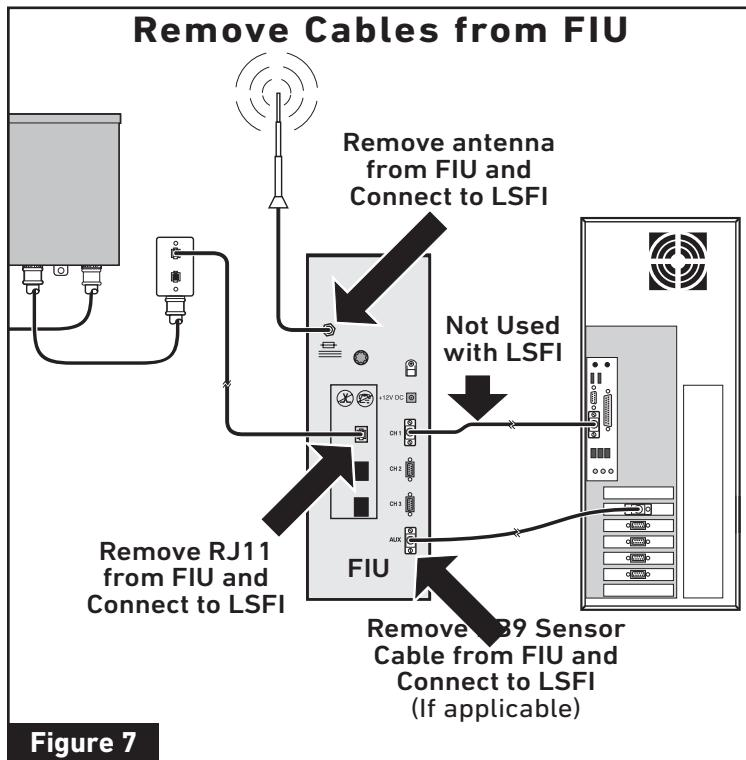

Figure 7
1. Remove the antenna, RJ11, and the two indicated DB9 connectors from the FIU. See **Figure 7**.